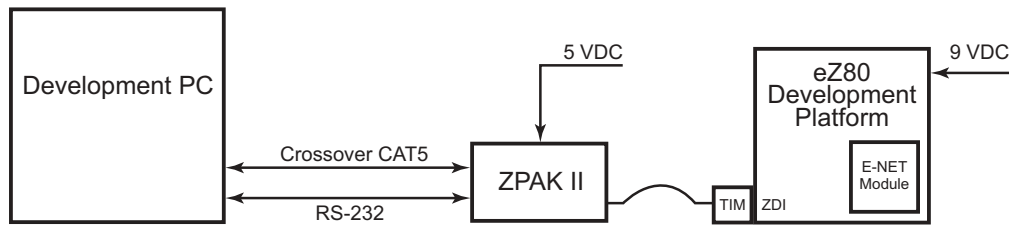

Figure 2. Hardware Setup using a Crossover Ethernet Cable (not supplied in the kit)
► **Note:** If a hub is not used, connect a crossover Ethernet cable (not supplied in the kit) from the PC to the ZPAKII unit. See Figure 2 for reference.